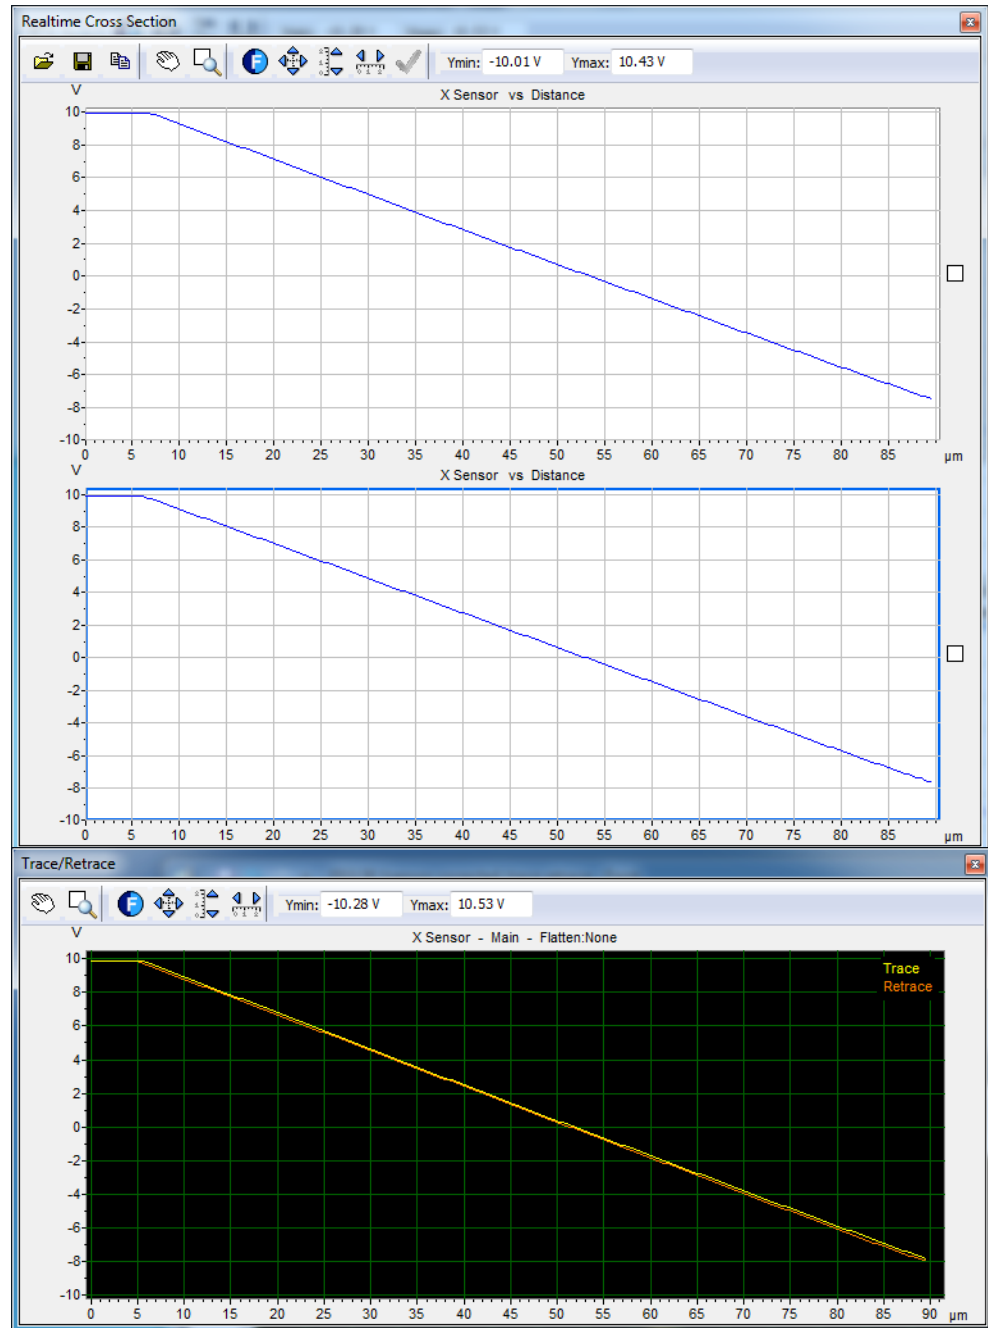

Figure 140 Initial plot before closed-loop scanner calibration
- 15 Click the **Up** or **Down** blue arrows in the Scan and Motor window to initiate a scan. When the scan is first started, the graph will probably look similar to that in Figure 140.